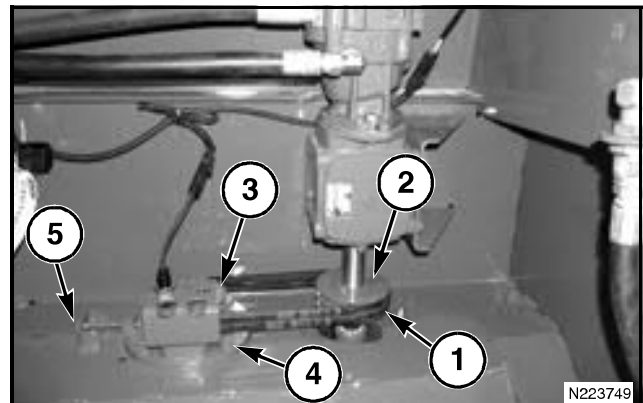

FIG. 20
FIG. 20: Check the tension of the center cage drive belts (1) between the drive pulley (2) and the center cage pulley (3). The tension is correct when there is 2.5 mm (0.10 in) deflection at mid span with 19.5 N (4.4 lb) of force.